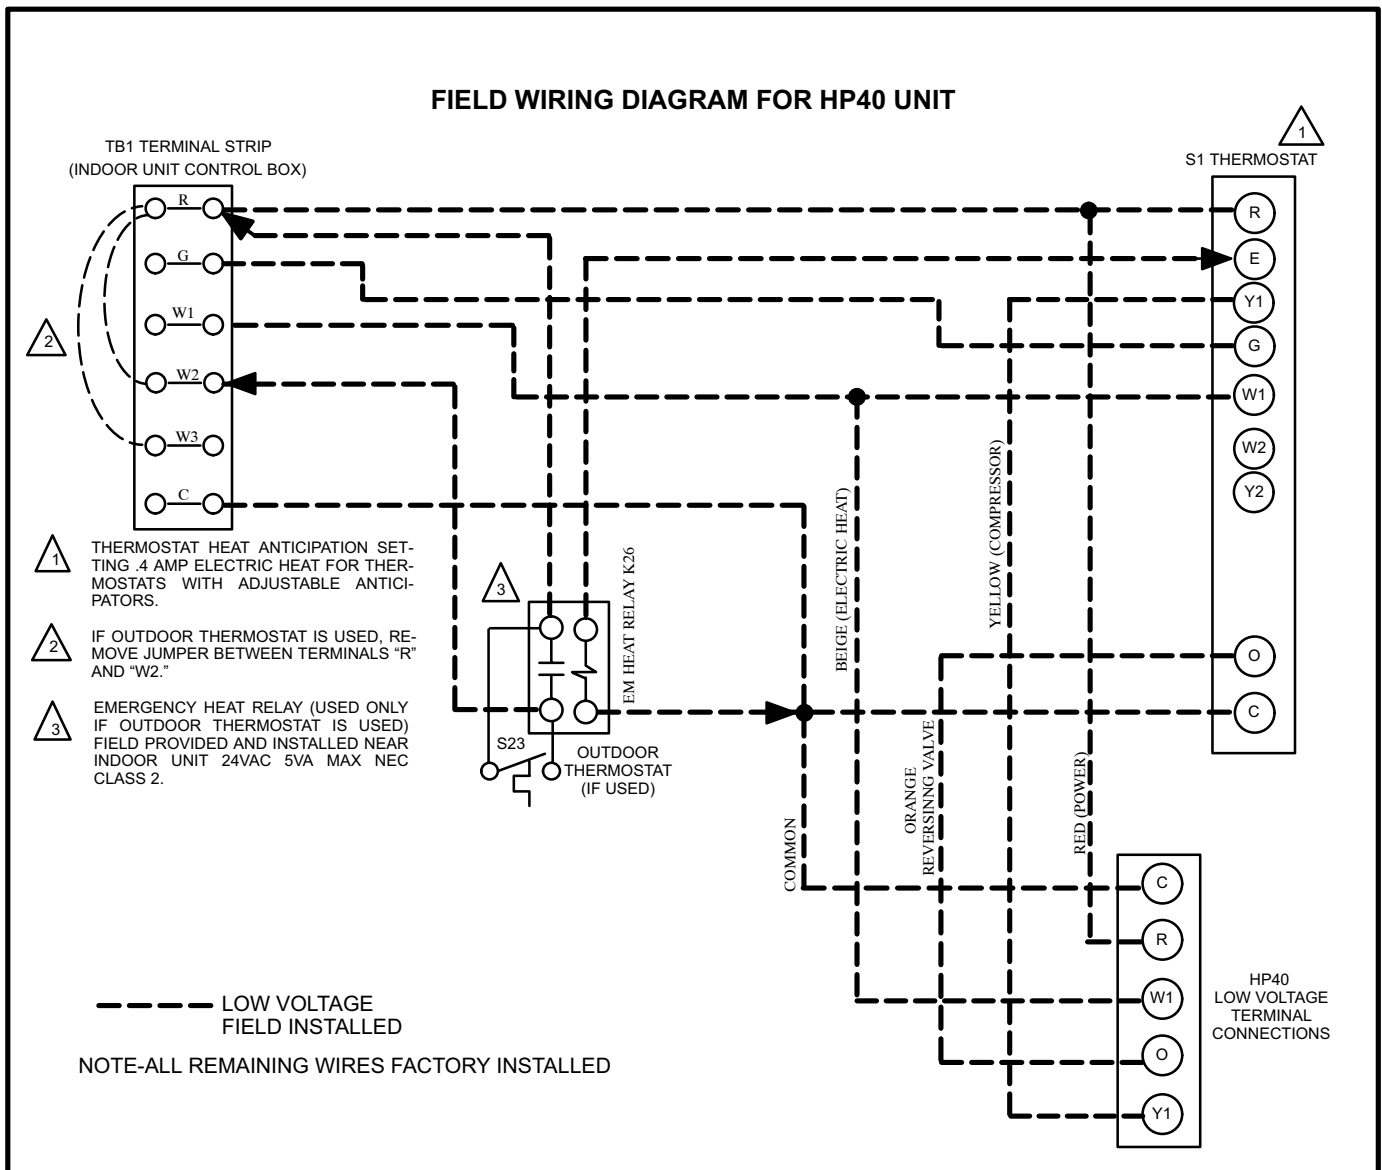

FIGURE 4
- 5 - Route 24VAC control wires from the thermostat to the indoor unit and from the indoor unit to the defrost control terminals in the outdoor unit as shown in figure 4.